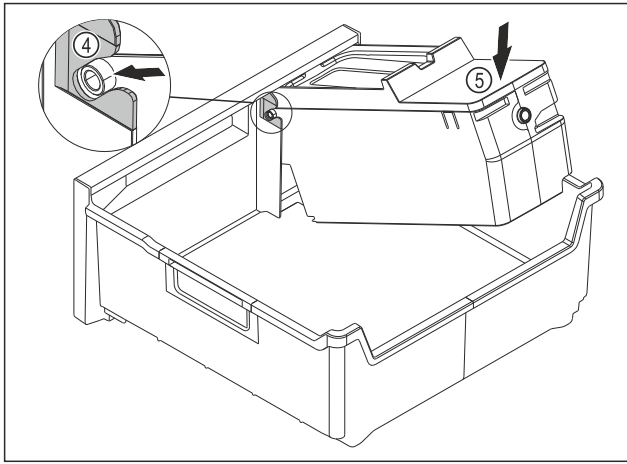

Fig. 216
- Installing the EasyTwist-Ice body: Push the axes for the EasyTwist-Ice body into the guides Fig. 216 (4).
- Press the EasyTwist-Ice body Fig. 216 (5) down at the back.